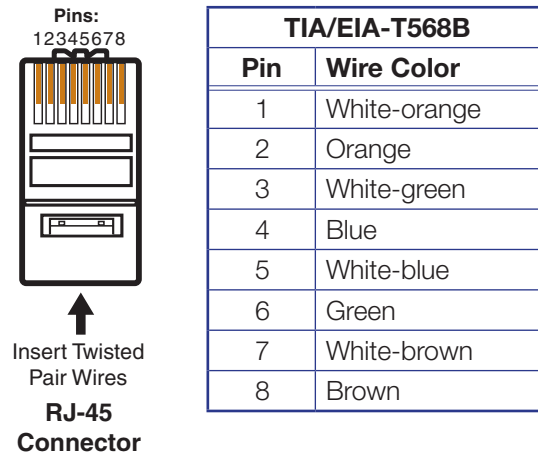

Figure 12. TP Cable Termination
- Terminate cables with shielded connectors to the TIA/EIA-T568B standard (see **figure 12** on the previous page).